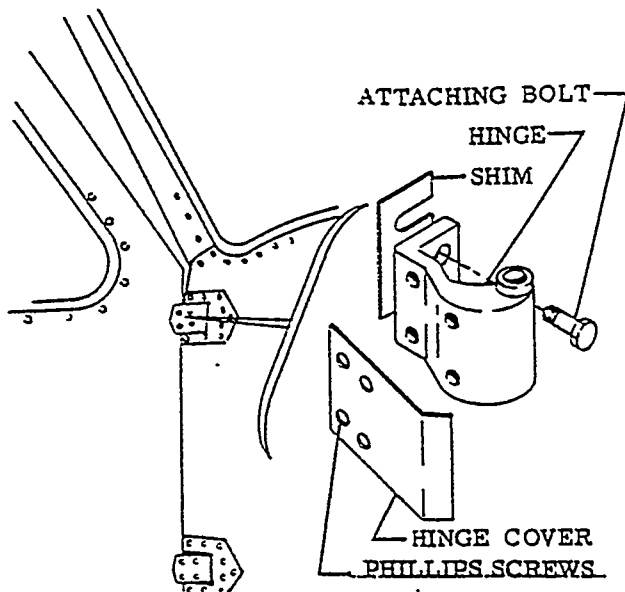

Figure 3-7. Cabin Door Hinge
(Figures 3-7 and 3-8)
- e. Remove the phillips screws from each hinge cover (see Figure 3-7).
- g. Remove the attaching bolts from each door hinge (see Figure 3-7).